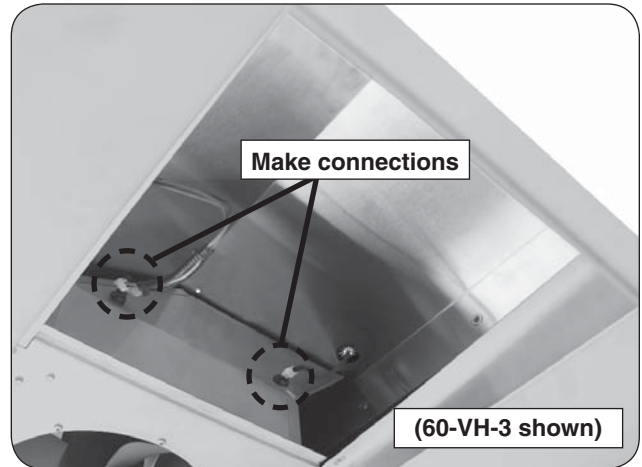

Fig. 13-2
1. Unfasten the 4 screws and remove the right access plate (see Fig. 13-2).
Standard models will have one wire connection coming out of the right rear side of the fan box, with the power supply cord coming into the vent hood. Make this connection as shown in Fig. 13-2.
Both models will have another wire harness toward the right front of the fan box. This is to be connected to the wire harness coming out of the right front of the vent hood. See Fig. 13-2 or 13-3.